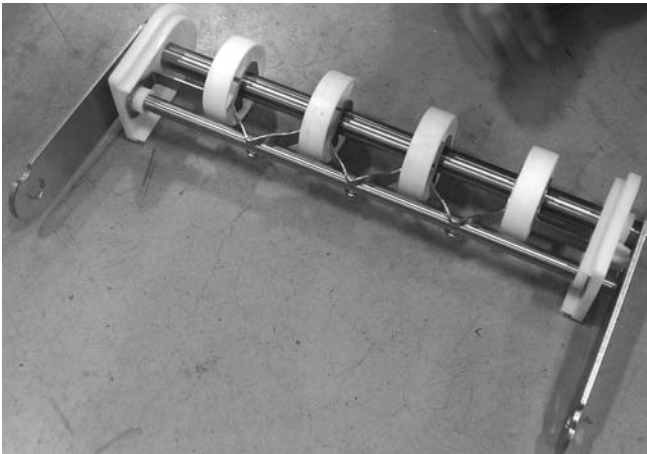

**Figure 72**
3. Remove idler assembly (**Figure 72, item 1**) from each end of tip up assembly (**Figure 72, item 2**) on conveyor frame.